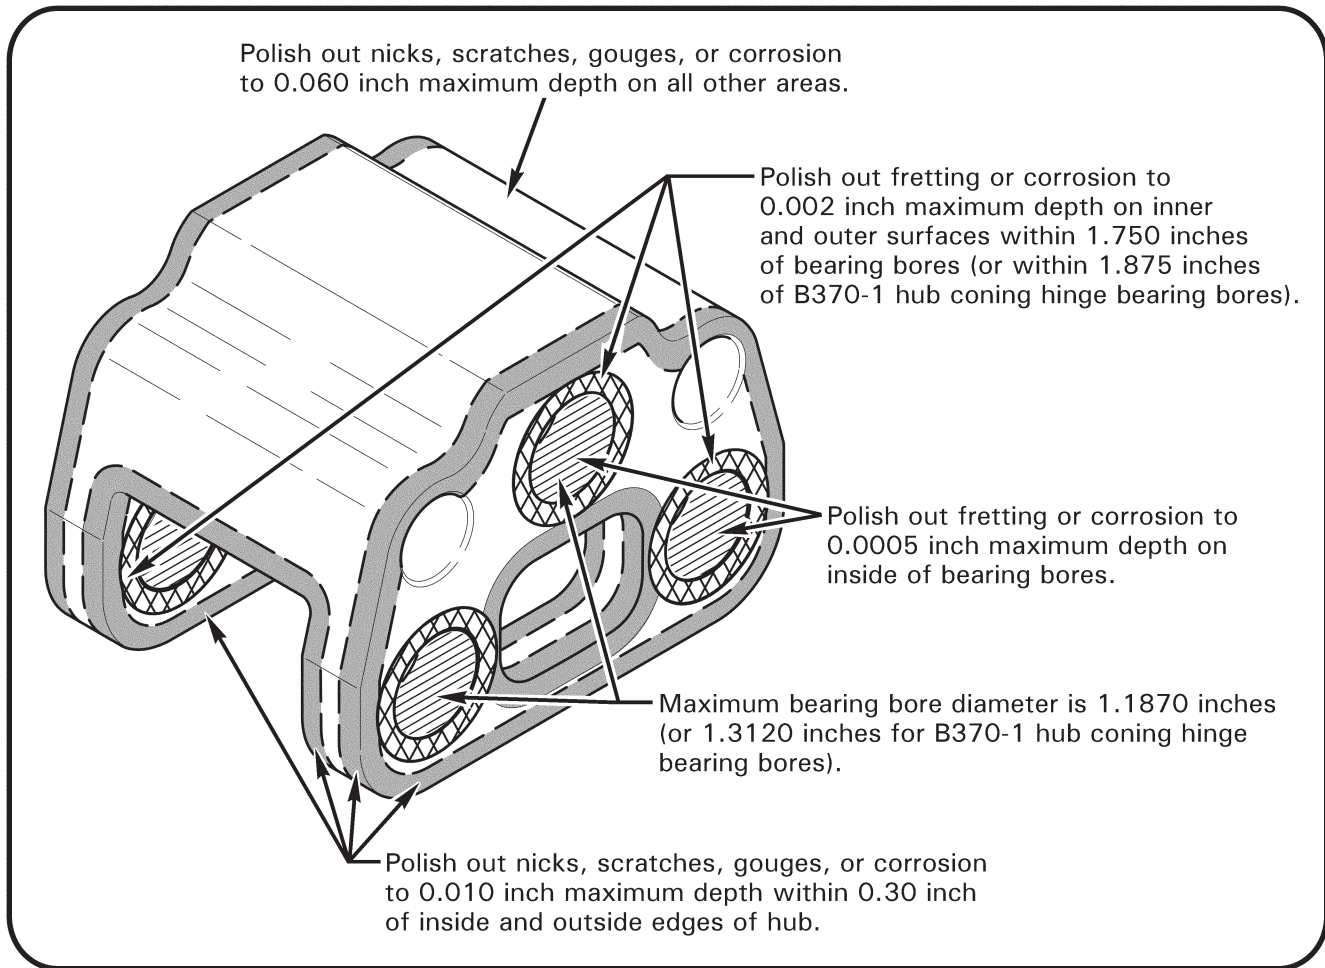

FIGURE 2-17 MAIN ROTOR HUB REPAIR LIMITS
3. Refer to Figures 2-17 & 2-18. If required, polish surfaces using 320-grit or finer wet-or-dry sandpaper to 0.25 inch minimum blend radius.